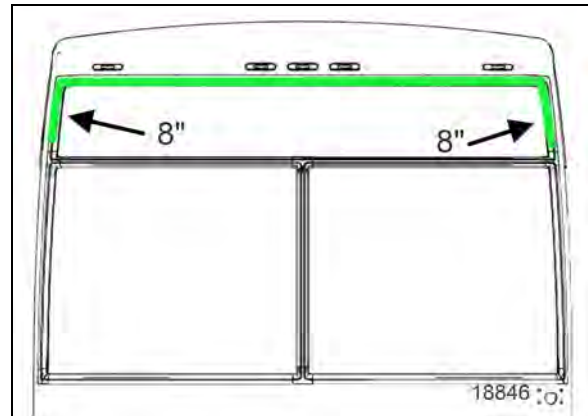

FIGURE 33: ADHESIVE LOCATION ON FIBER
5. Apply a 1/8" bead of adhesive on the fiber of the top and 8" on both sides as shown in Figure 33.